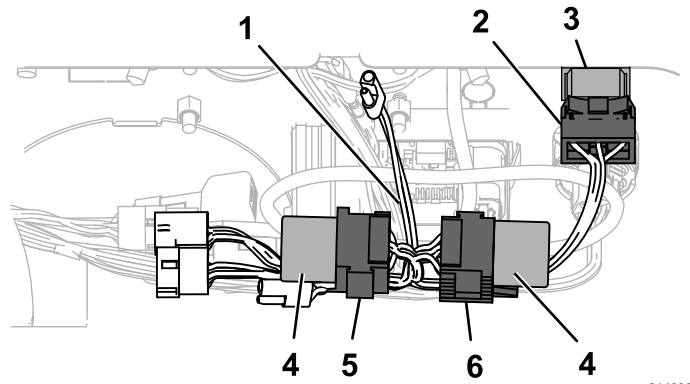

**Figure 3**
3. Remove the hex nut from the switch, insert the switch through the hole, with the slot on the left, and use the nut to secure it (Figure 3).